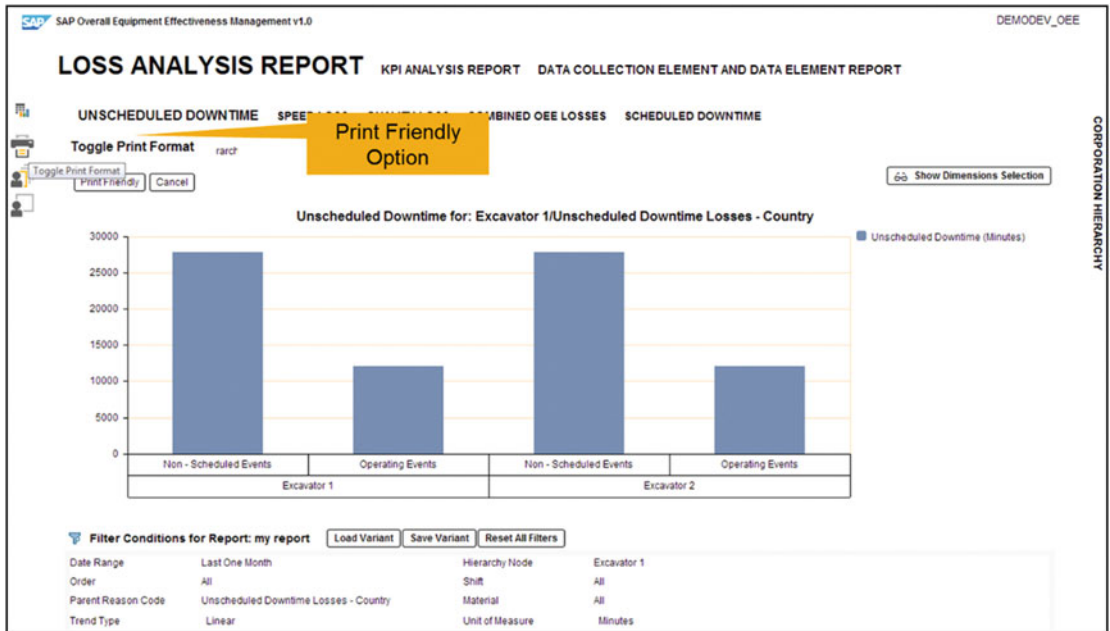

Figure 9-14. Graph in printer-friendly mode
- On the extreme left bar there are various options such as viewing the reports in graphical or tabular form, converting the chart into printer-friendly mode, and so on. Figure 9-14 shows the graph in printer-friendly mode. The left bar also provides an option to plug the link of the custom developed package into the application. There is an SAP note (1834144) that details how to add custom reports to the SAP UI5 HANA OEE reports.